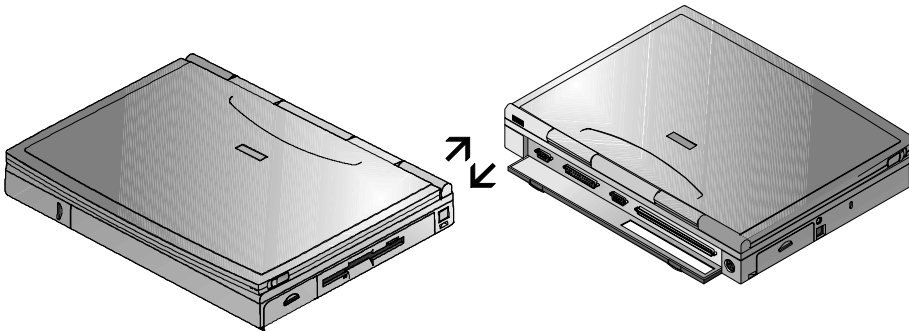

Figure 4-5: An Infrared Data Transfer
The notebook is equipped with an Infrared (IR) port, on the rear panel (Figure 4-5). The Infrared port consists of one Light Emitting Diode (LED) and one photo sensor. The operation of the Infrared port is similar to the operation of a television remote control device. The LED functions as a transmitter and the photo sensor acts as a receiver. The transmitter emits a signal stream of data in the form of pulses of infrared light. The receiver picks up pulses of infrared light transmitted by other IR modules.